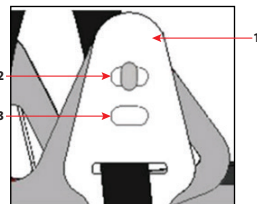

Fig. 2
The helmet has two adjustment positions for the wearing height (Fig.2). After putting the helmet on the head, make sure that the cradle is properly adjusted to the height of the head. As standard, the attachment of the headband (1) is mounted in the low position (2). In order to change the wearing height, move the attachment of the headband to the high position (3).